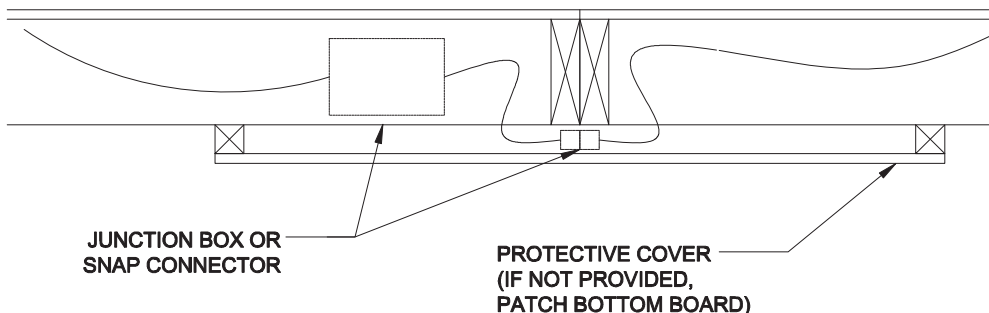

Figure 40. Floor electrical crossover wires with bumped-out access panel
2. **Route wires.** Pass the wires through predrilled holes or notches in the rim joist or if there is a single bumped-out access panel as in Figure 40, then connect under the rim joists.
2. **Connect wires.** If wire is coiled inside one junction box, insert it into flexible conduit and pass it under the rim joists to the opposing box and make the connection as described above. If no coiled wire is provided, install conduit with wire making connections in both boxes (**Figure 40**).